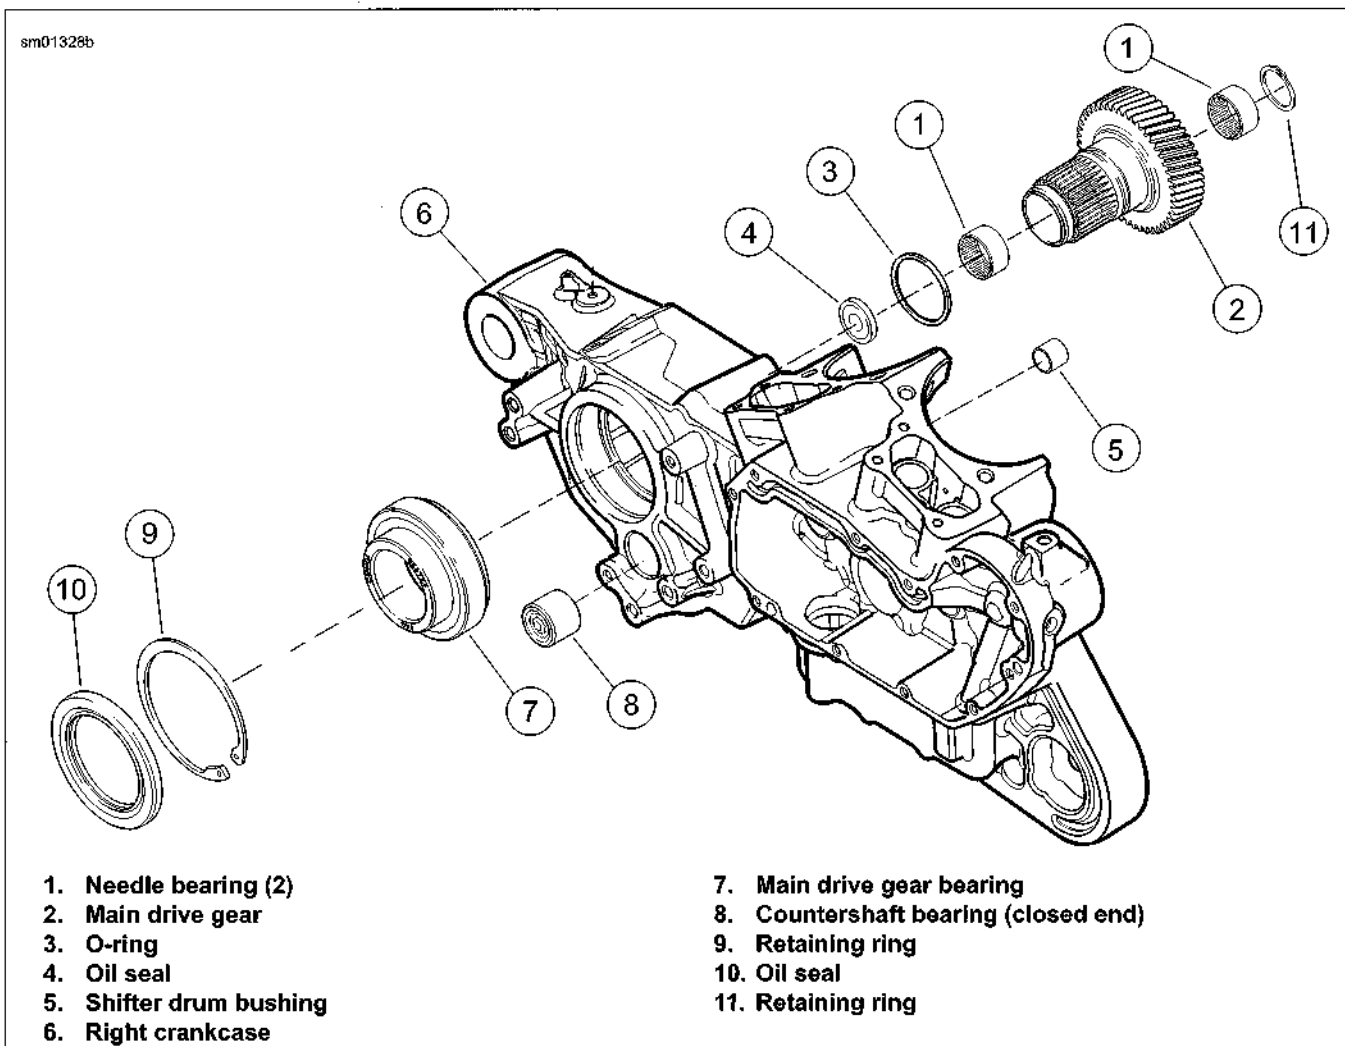

Figure 5-52. Main Drive Gear and Bearing Assembly
- See Figure 5-52. At outside of case install new beveled retaining ring (9) in groove inside bearing bore with beveled side facing outside of case.
- See Figure 5-52. Install new O-ring (3) into groove in main drive gear (2). Lubricate O-ring with SCREAMIN' EAGLE ASSEMBLY LUBE.
6. See Figure 5-52. Tap in new oil seal (4) at threaded end of main drive gear to a depth of 0.060-0.030 in (1.524-0.762 mm).